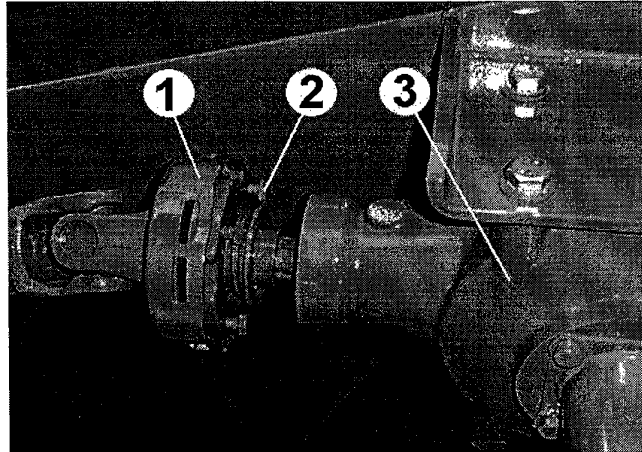

Fig 7
A clutch (item 1, fig 7) supplies the safety mechanism for the drive system. Under normal circumstances this clutch should not require maintenance. If extra adjustment is required to stop the clutch slipping, turn the adjusting bolts (item 2, fig 7) clockwise; always adjust the bolts equally. Too much adjustment to this clutch could result in damage to any part of the drive system including the gearbox (item 3, fig 7) or any of the webs.